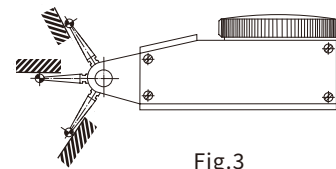

Fig.3
- When measuring, the center axis of the stylus point should be parallel to the surface of the workpiece. Only by observing this rule, an accurate measurement result can be guaranteed (Fig. 3).